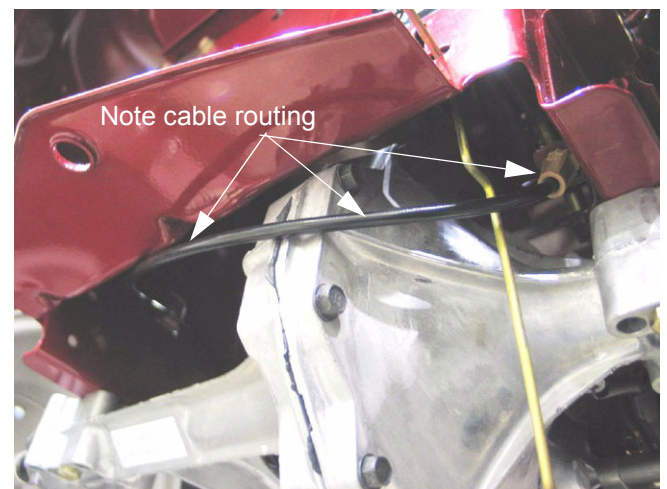

Figure 4.5
- 4.5. The cable is properly routed behind the transmission to reach the left side frame channel, where it is secured by a clip. See Figure 4.5.